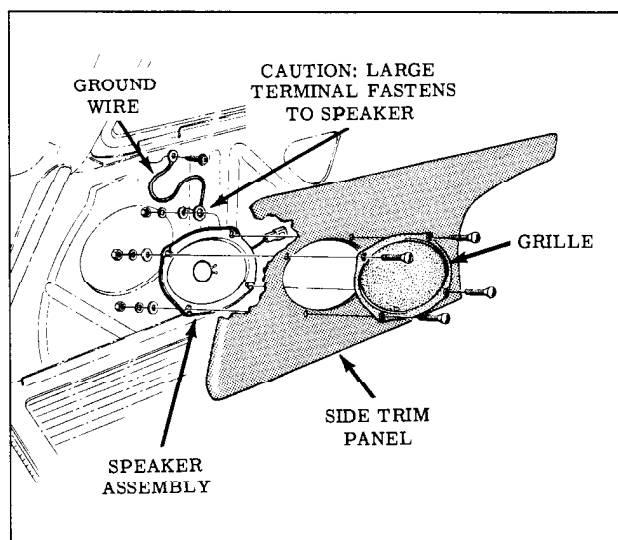

Fig. 15-14 Rear Seat Speaker (35 & 45 Styles)
3. Remove speaker assembly from the quarter panel. (Fig. 15-14)